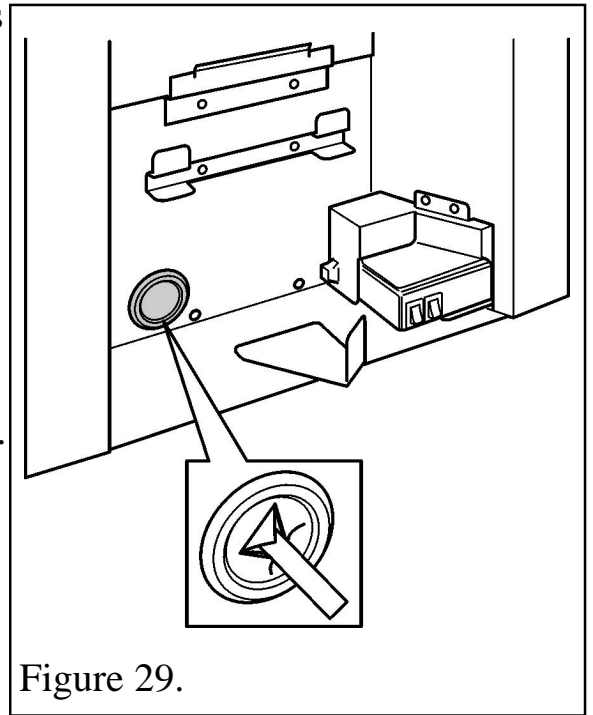

Figure 29.
3. If gas supply is to the rear of the appliance, then entry is via the large grommet, at the lower left hand side of the back face. Pierce the grommet to allow pipe entry (See figure 29).